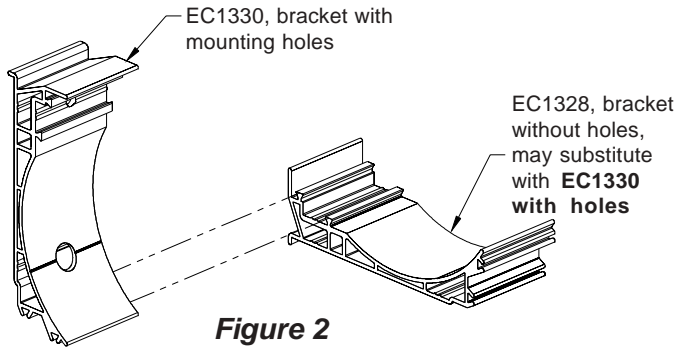

Figure 2
- 2) Some brackets are in the ending kit and some in the cooling kit. Find 2 halves of the pipe bracket, EC1330 and EC1328, and slide them together. **See Figure 2.**